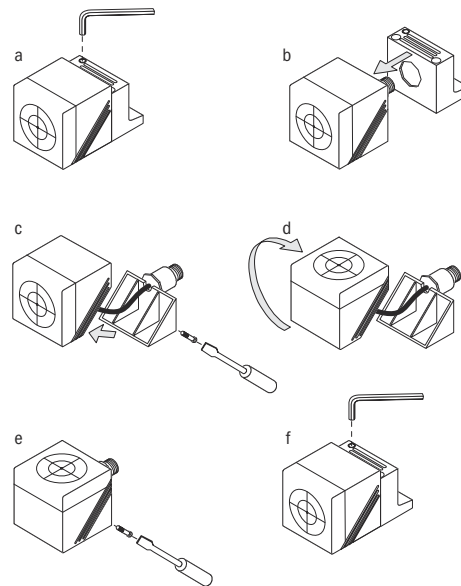

Figure 5: Alignment of the active sensor face of the safety switch
1. Unscrew the hexagon socket screw on the sensor bracket and pull the sensor off the bracket (see figure 5 a-b).
2. Loosen the two screws at the lower corner of the sensor housing and rotate the active sensor face into the correct position (see figure 5 c-d).
3. Screw the sensor housing back on and remount the sensor on the sensor bracket (see figure 5 e-f).